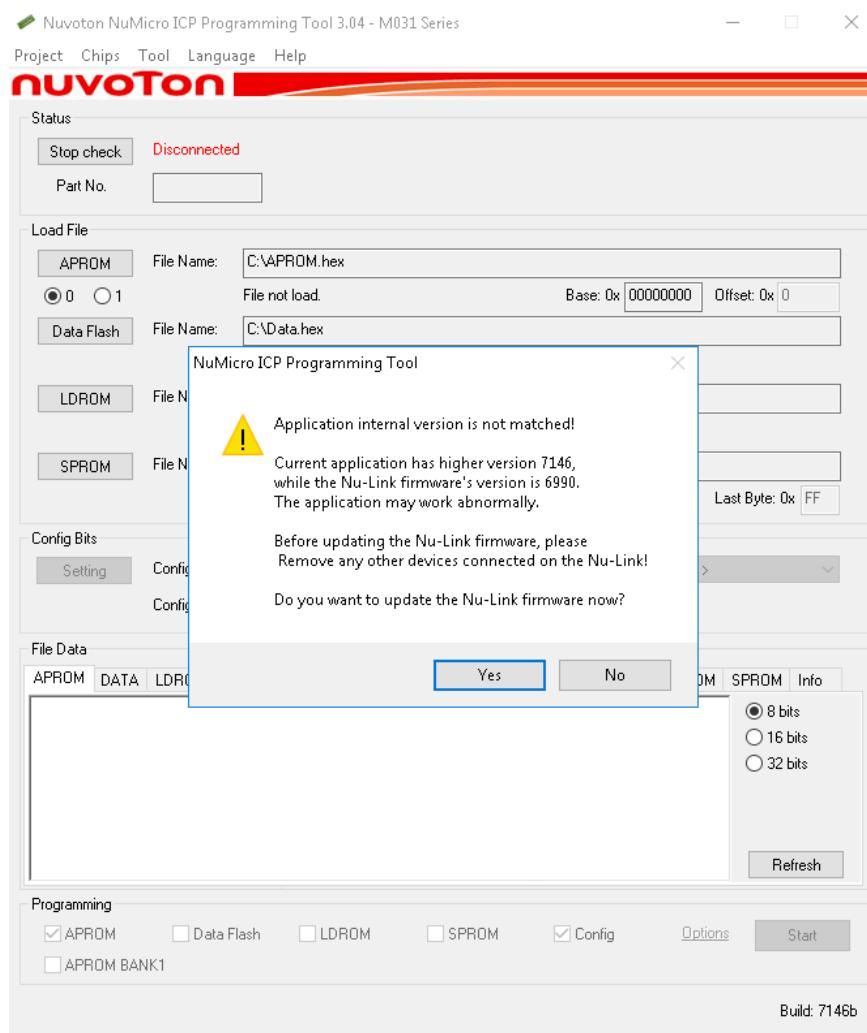

Figure 7-1 Firmware Update Selection Dialog Box
**Step 1:** Run the ICP Tool. Click 'Connect' and start to connect to a device. If the firmware version and driver version are not matched, a firmware update dialog will be displayed, as shown in Figure 7-1.